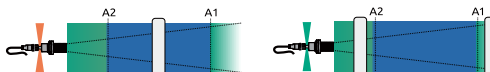

Figure 19 - Trigger on out of range: on approach (S < A2) or on approach (S > A1)
- The output signal toggles when an object is at a certain distance (S) within the configured range. The working principle is shown in Figure 19. When the object is not in or out of the set range, the output turns off. The user range needs to be set during operation:  $A1 > A2$ .